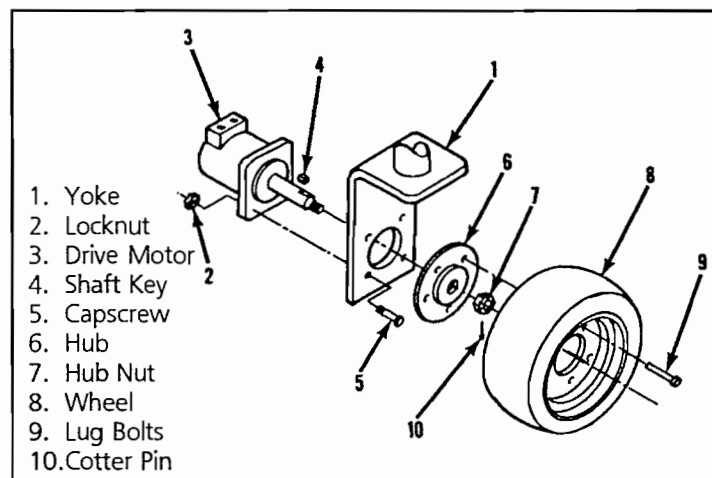

Figure 4-10: Drive Motor Installation
## 4.9 Hydraulic Drive Motors and Hubs (Figure 4-10)
1. Referring to Figure 4-10, position the drive motor on the yoke and secure with capscrews and locknuts.